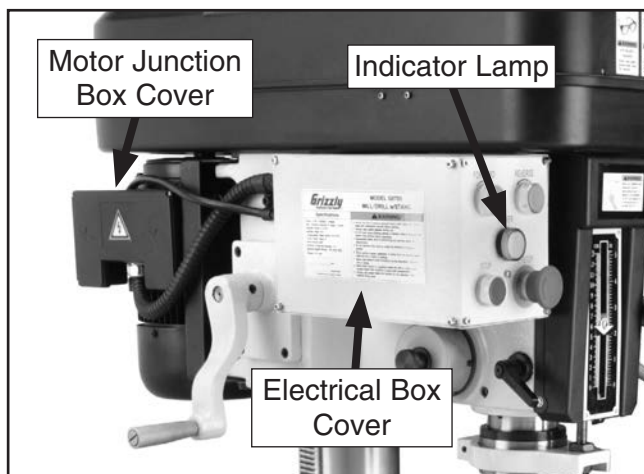

Figure 4. Cover locations.
2. Remove the electrical box and motor junction box covers shown in **Figure 4**.
7. Locate the indicator lamp shown in **Figures 4 & 5**. Disconnect the two wires from its terminals, then remove the lamp.